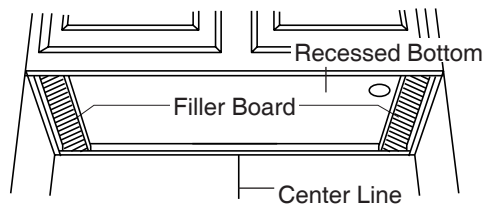

Fig. 2-2
**Note:** Cabinets with recessed bottoms sometimes require filler board to be used to create a flush surface for the two mounting screws. (Fig. 2-2)